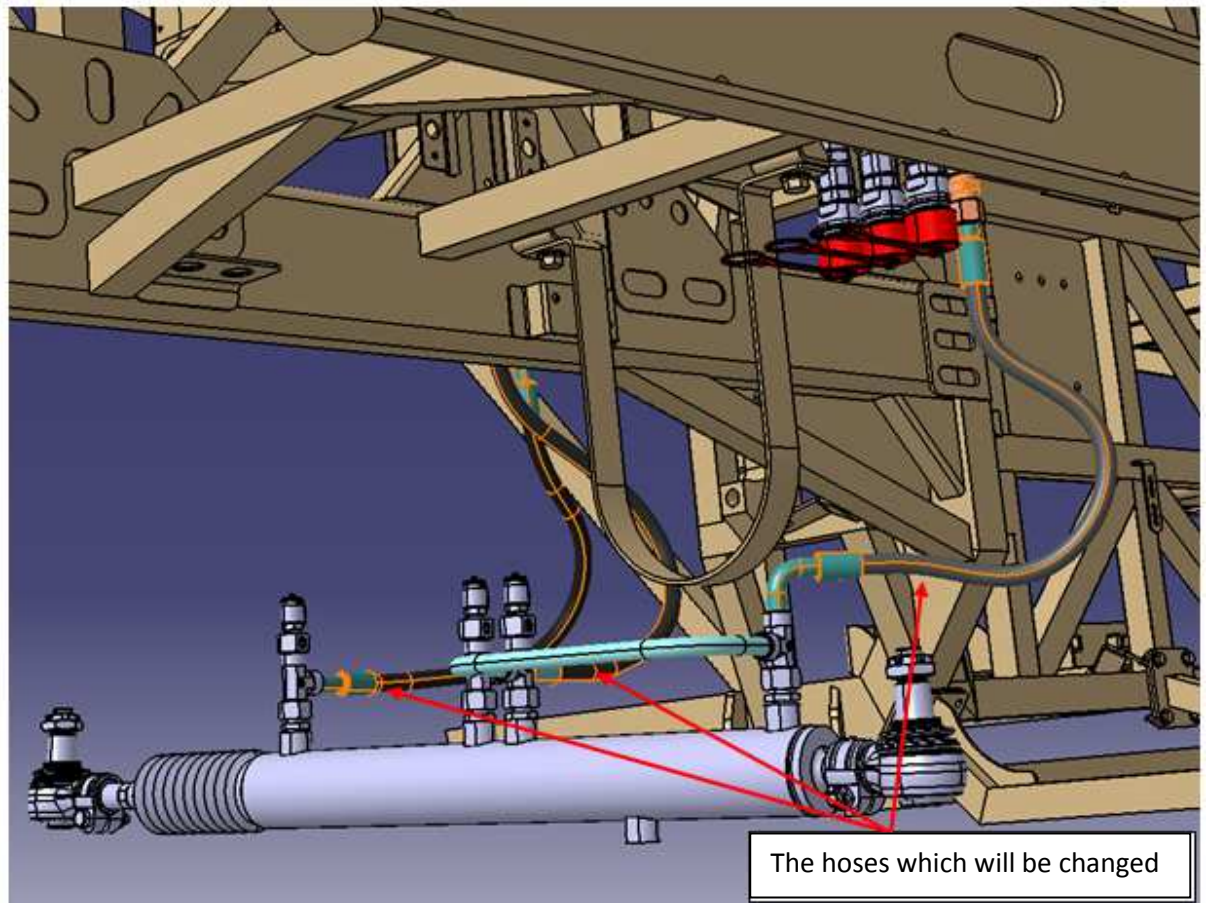

Figure-1
- 2- Figure-1 shows the working area and hoses with the red arrows which will be changed with the new ones.